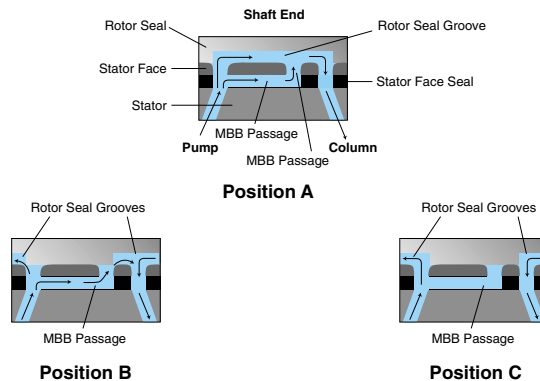

Fig. 3. Flow paths of Model 7725 and 9725 with patented Rheodyne MBB design.
- The Rheodyne patented Make-Before-Break (MBB®) architecture allows continuous flow between LOAD and INJECT positions which greatly reduces transient pressure shocks that disrupts your system. See Figure 3.
Figure 3 illustrates the MBB valve design. In the LOAD position, mobile phase flow from pump port to column port travels through both the rotor seal groove and the MBB passage (Position A). As the rotor seal grooves rotate to change from LOAD to INJECT, there is continuous mobile phase flow through both one rotor seal groove and the MBB passage (Position B) until the rotation stops and both rotor seal grooves are connected by the loop. Sample flow begins through the loop to the column just as all flow stops through the MBB passage (Position C). Sample flow never enters the MBB passage.